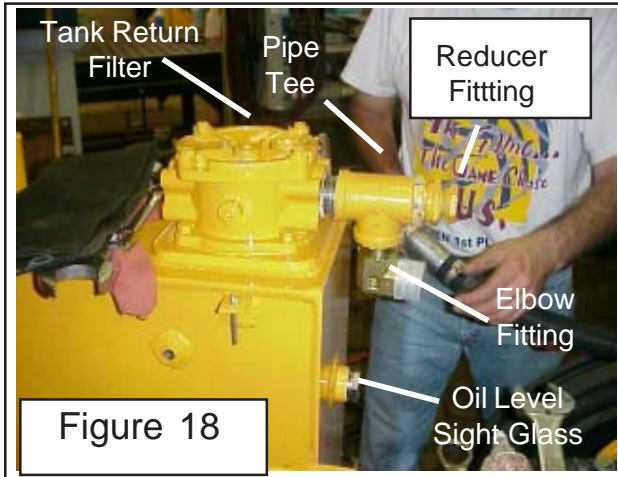

Figure 18
22. Install Hose Fittings into Return Filter in Tank. There is a return filter in the top of the RH side of tank. In the end of the filter housing install a Tee Fitting with an Elbow in it. In the end of the Tee there will be reducer to allow the installing of a smaller hose. This reducer is where the return hose from the control valve will connect (See Figure 18 & 19).
IMPORTANT FACT. When connecting the hoses to the fittings on the mainframe crossmember remember the top hose is always the pressure hose and will only connect to the motor, never the cooling tubes on the deck. The bottom hoses are the return hoses and will always connect to the cooling tubes on the mower deck. (See Figure 18 & 19). The RH wing will connect the same as the LH mower (Shown). **IMPORTANT.** On the RH Wing the top hose is pressure and connect to the Motor and the bottom hose connects to the Tank return.